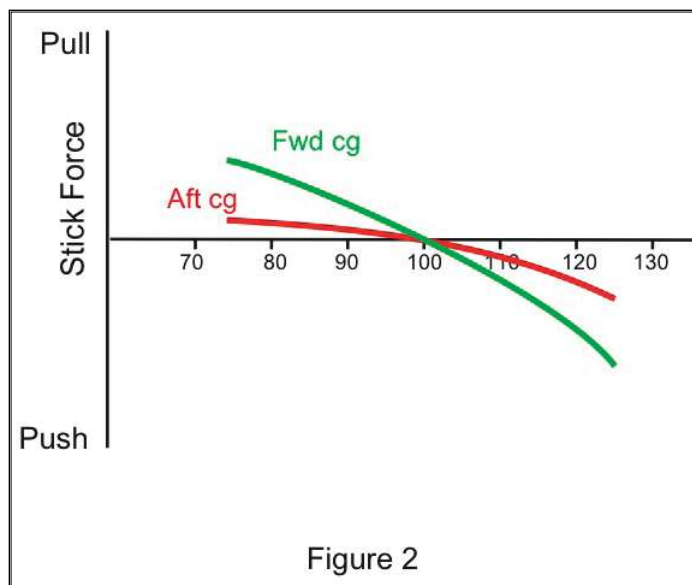

Figure 2
The farther aft an airplane's center of gravity (CG), the less stable it is. This is why there are limits to the aft end of the allowable CG range. Figure 2 shows the effect of CG on a static stability plot. The forward CG limit is usually determined by how much nose-up authority the elevator has. The worst case for the forward CG limit is typically the landing flare in ground effect with the gear down and flaps down, all of which create nose-down pitching moments that the elevator (also less effective in ground effect) must overcome during the flare.